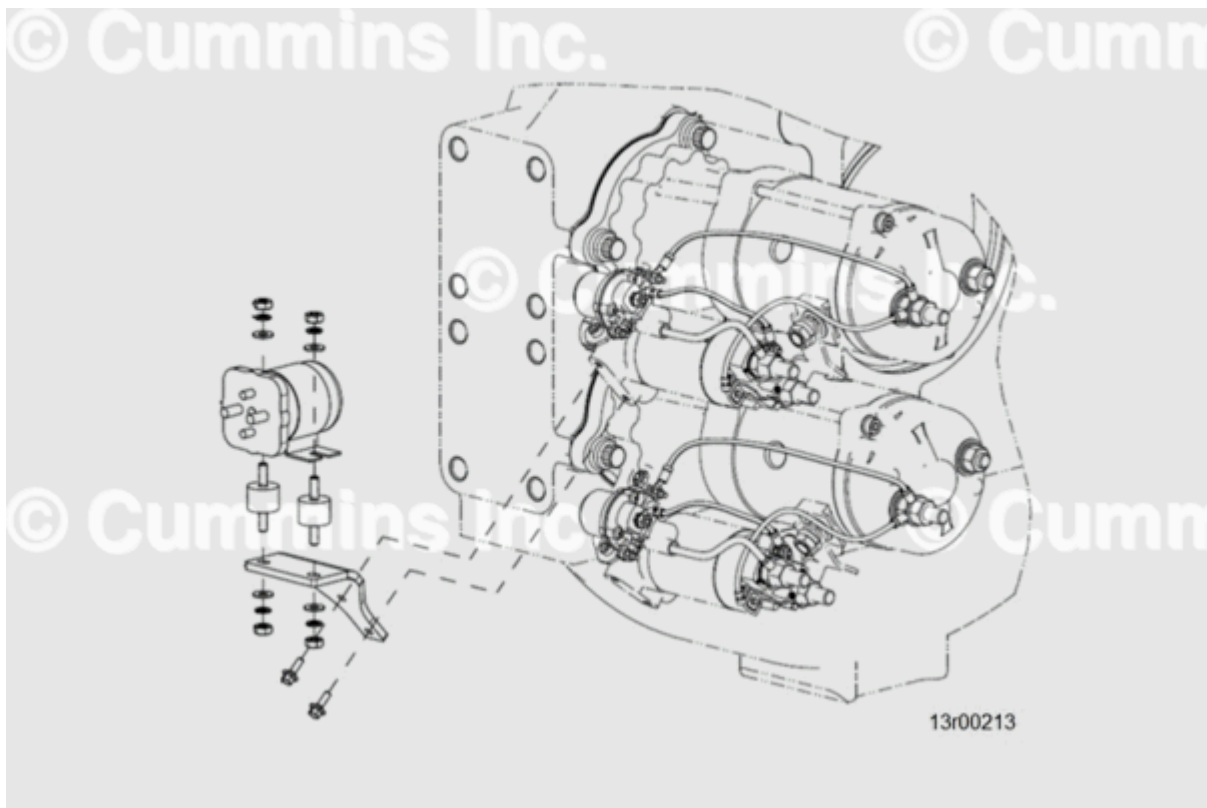

Figure 3, Magnetic Switch Exploded Diagram.
- Figure 3 shows the exploded starting motor assembly detailing the magnetic switch and is applicable for both orientations of mounting bracket and single/dual magnetic switch assemblies.